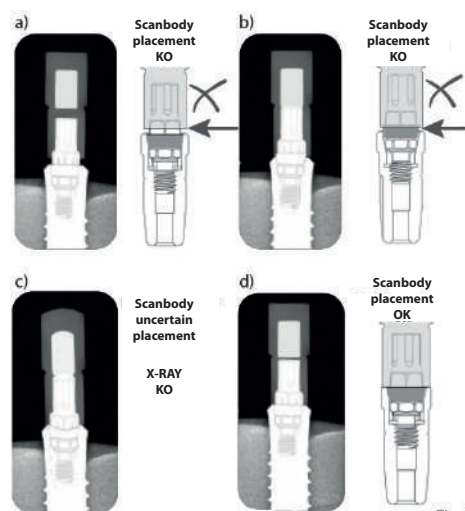

Fig.2
7) Verify that the adapter and the scanbody are properly positioned, before starting the scan, by X-ray (focusing it toward the implant connection and at a 90-degree angle to its axis). See Fig2. And Fig 3. Four situations can be found in the radiography:
Standard intraoral adapter (Fig. 2):